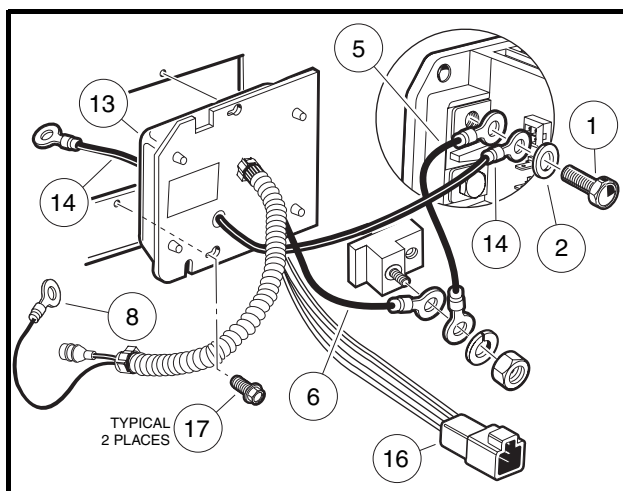

Figure 13-6 Onboard Computer
2. Remove rear body access panel and unplug the six-pin connector (16) at the OBC (**Figure 13-6, Page 13-8**).
4. Remove the wire tie (3) securing the speed controller wires to the mounting plate.
5. Remove black 6-gauge wire (14) and black 10-gauge wire (5) from the speed controller B- terminal (**Figure 13-6, Page 13-8**).
6. Remove the black 10-gauge wire (6) from the accessory mounting terminal.
8. Disconnect the black 10-gauge wire (8) at the charger receptacle.
10. Loosen, but do not remove, the two self-tapping screws (17) holding OBC to component mounting plate.
11. Slide OBC towards outside of vehicle and align heads of self-tapping screws (17) with the two holes in the OBC face plate. Pull OBC towards rear of vehicle and remove from component mounting plate.
3. Install the OBC onto the component mounting plate by aligning the two holes on the OBC face plate with two holes on component mounting plate. Slide OBC towards inside of vehicle and align heads of self-tapping screws (17) with smaller part of two holes in OBC face plate (**Figure 13-6, Page 13-8**). Tighten screws to 60 in-lb (6.7 N-m). **See following NOTE.**
5. Connect the black 10-gauge wire (8) to the charger receptacle (**Figure 13-6, Page 13-8**). Tighten to 23 in-lb (2.6 N-m).
7. Connect the black 10-gauge wire (6) to the accessory mounting terminal. Install the nut on the accessory terminal and tighten to 9 ft-lb (12.2 N-m).
8. Connect the black 6-gauge wire (14) and black 10-gauge wire (5) to the speed controller B– terminal with the washer (2) and bolt (1) and tighten to 9 ft-lb (12.2 N-m) (**Figure 13-6, Page 13-8**).
9. Plug the six-pin connector (16) from the OBC into the vehicle wire harness.